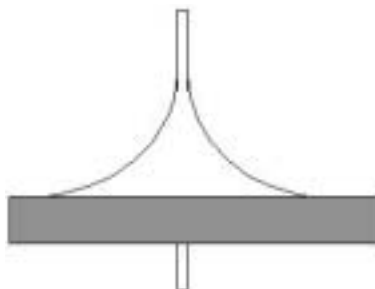
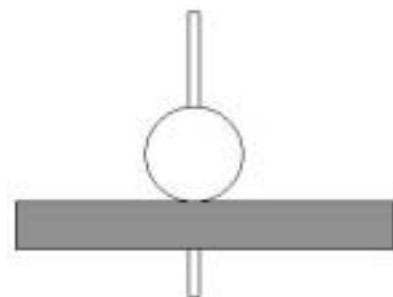

Figure 4. Good solder joint!
Figure 5. Bad solder Joint
- Figure 4 is a good solder joint and Figures 5 and 6 are bad solder joints.